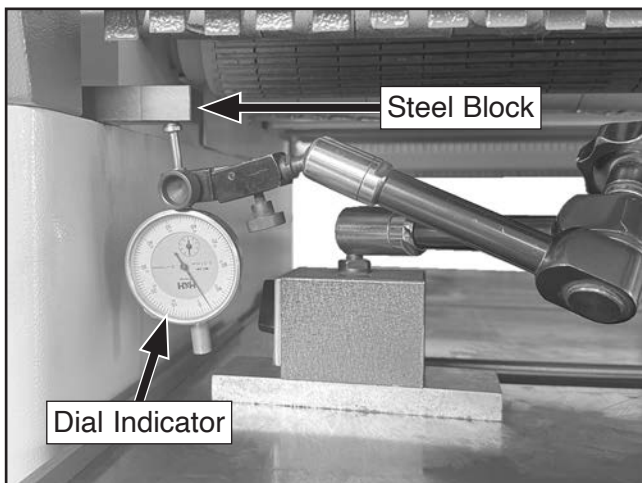

Figure 91. Example of using dial indicator to find reference for table parallelism.
4. Set Rotacator/dial indicator pin touching bottom of steel block (see **Figure 91**) and set indicator dial to "0".